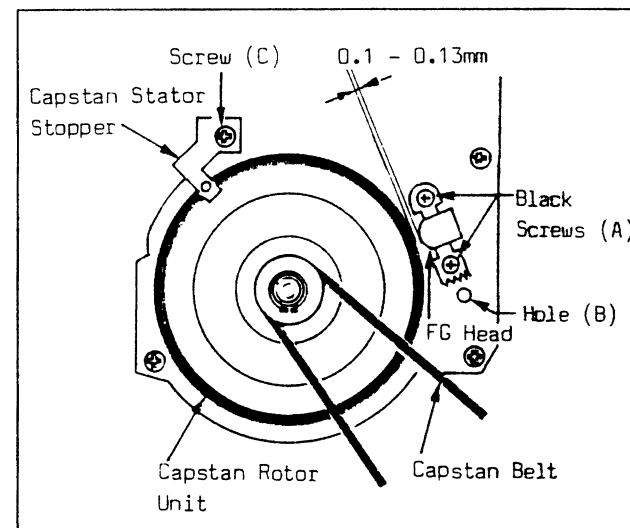

Fig. M19
2. Slightly loosen 2 Black Screws (A) and set the Fine Adjustment Screwdriver into Hole (B) as shown in Fig. M19. Turn screwdriver clockwise until the FG Head touches the rotor. Then turn it slightly counterclockwise to the clearance as specified.
3. Tighten 2 Black Screws (A) in Fig. M19.
1. Remove the Capstan Belt (Fig. M19).
2. Remove Screw (C) and the Capstan Stator Stopper in Fig. M19.
8. Re-install the Capstan Stator Stopper with Screw (C), in Fig. M19.